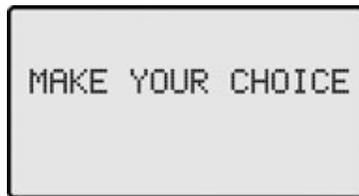

Figure 6-1 Make your choice
1. Insert FacilityPro card or Chipknip into the card reader. The display will show as in Figure 6-1.
2. Press the ?-key. The display will show as in Figure 6-5 for a few seconds and then again as in Figure 6-1.